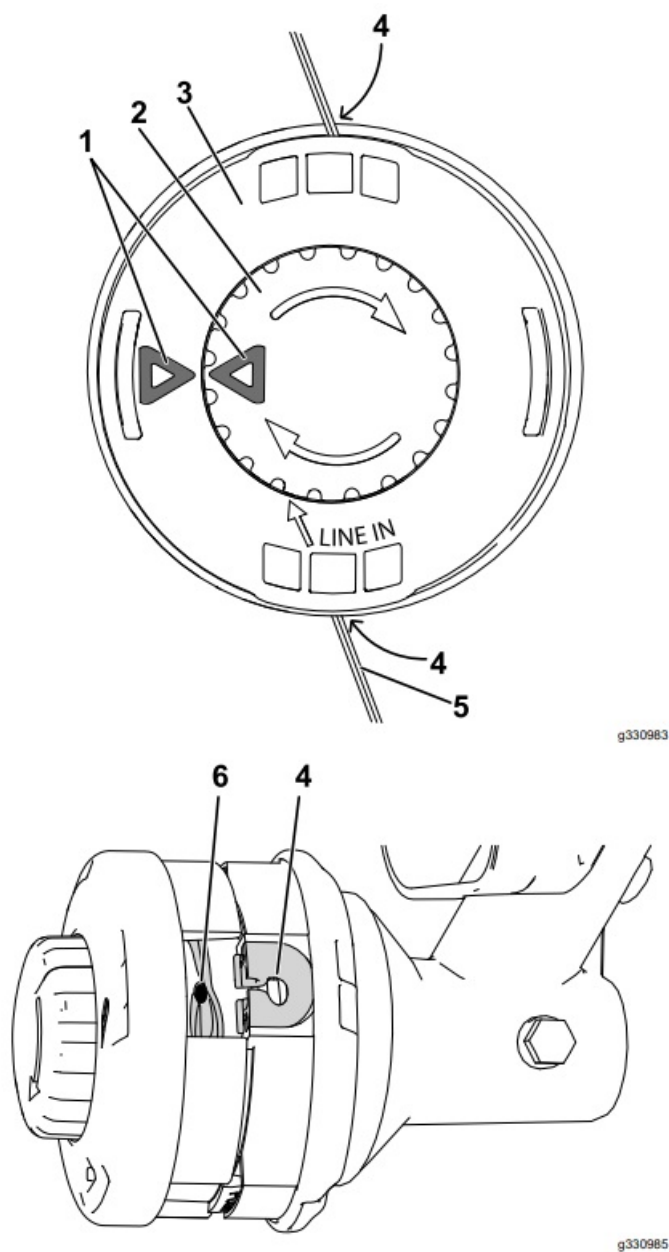

Figure 16
4. Press and turn the knob on the string head until the arrow on the knob aligns with the arrow on the string head (Figure 16).